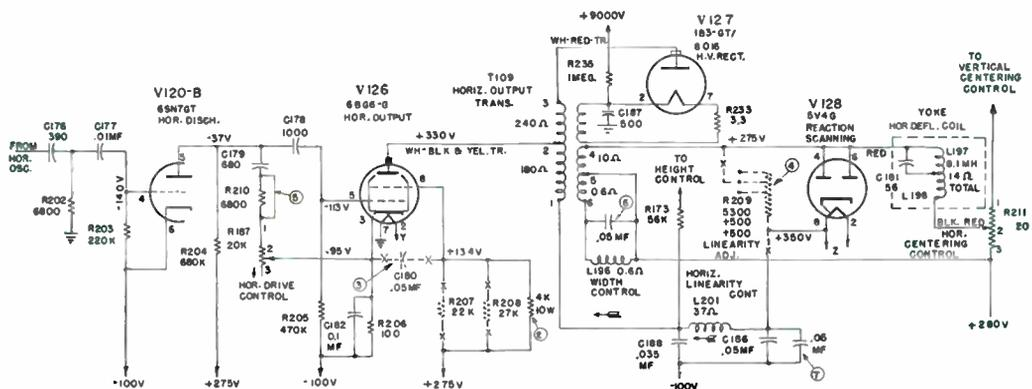

Figure 8. Horizontal output and HV section of RCA 630TS showing changes made to use a General Electric 14CP4 picture tube.
2. R207 and R208 in Figure 8 were removed and replaced with a 4000 ohm 10 watt resistor.